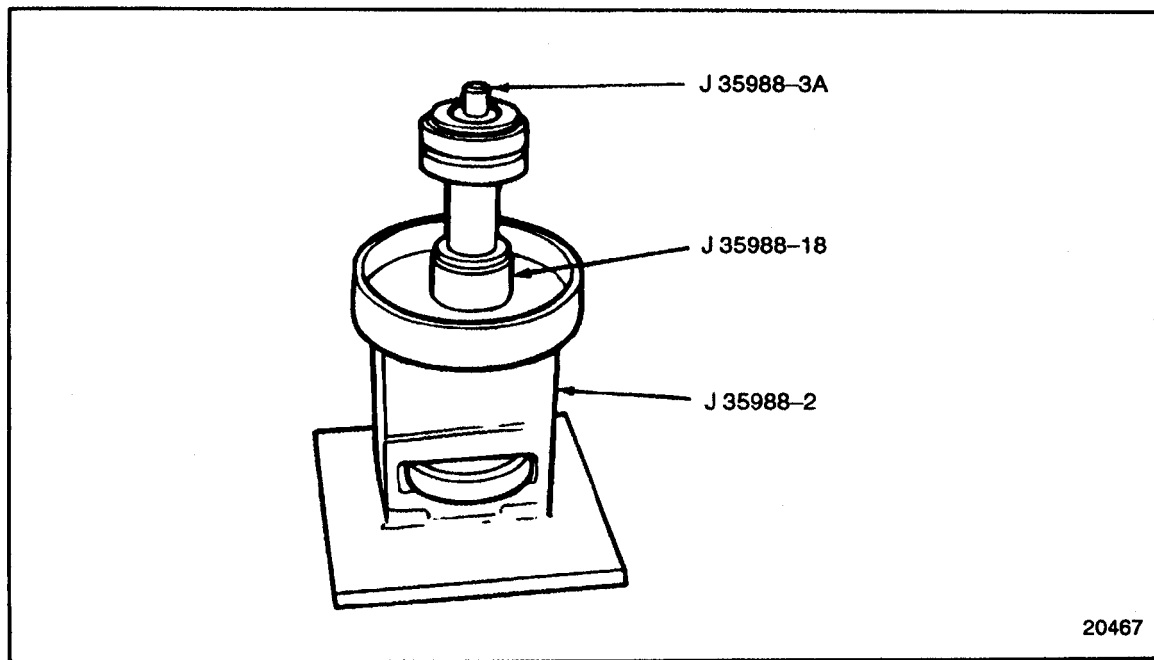

Figure 4-17 Bearing Placement (GCM)
4. Install J 35988-3A part of tool set J 35988-B, on the end of the water pump shaft. Install the assembled bearing packs to the drive shaft. See Figure 4-17.